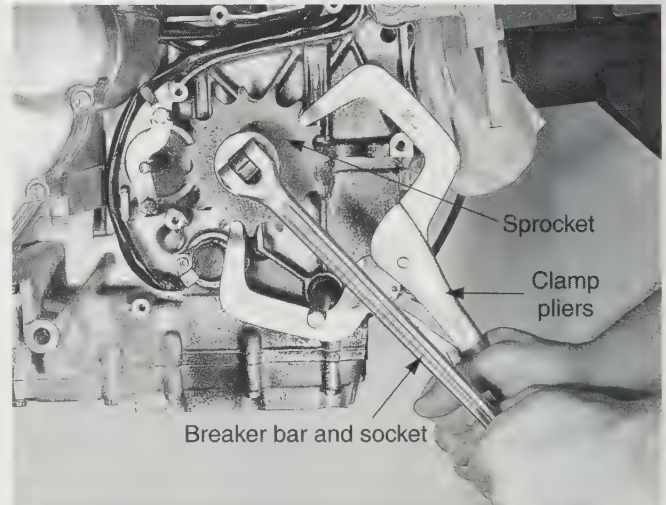

Figure 18-22. A pair of clamp pliers can be used to safely hold the countershaft sprocket while loosening the sprocket nut.
- Clamp pliers or a chain wrench to hold the transmission output sprocket, **Figure 18-22**.